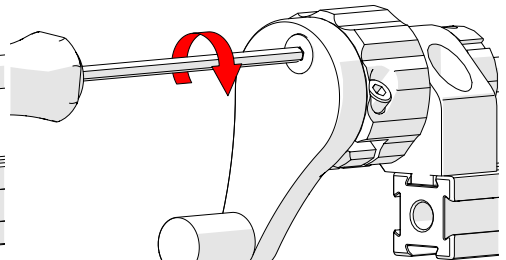

Fig. 146 - Tighten screw
2. Using the supplied 3 mm hex driver (Fig. 24), tighten the hexagonal screw (Fig. 146).